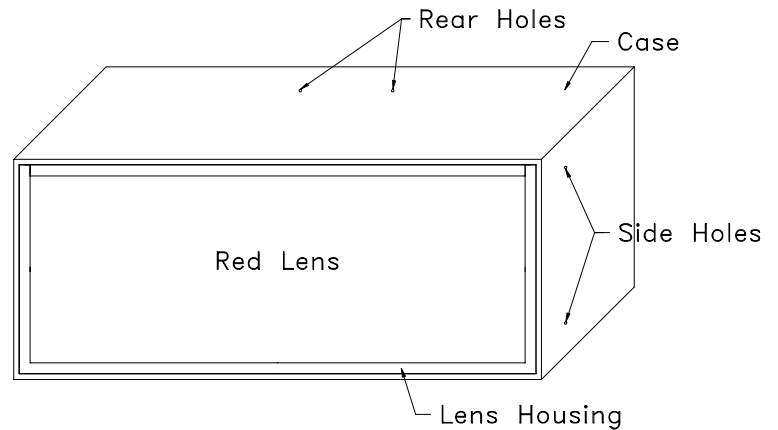

Figure 1 - Hole Locations
2. Thread four #8 self-tapping screws into the four side holes in the case using the hex driver (see Figure 1). Under the surface, the holes are much larger, and should thread easily once the screws are started. Once the screws have started, thread them down approximately three turns.